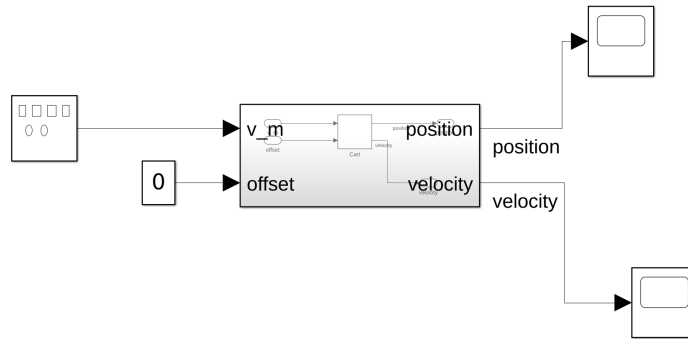

Figure 4: Schematic representation of the Matlab Simulink model
In this section you will learn how to configure and setup your system. You will need to The objective is to have the cart on the rails swing back and forth when inputting a square wave. Open the plant model (the file `cart.slx` provided to you) on your simulink model. Using the **Sources/Signal Generator** block in Simulink, create a block that generates a square wave for $v_m(t)$ with amplitude 1.5 V and frequency 0.5Hz. Be sure to input the value 0 to the **offset** input. A simple way to do it is to use the **constant** block with value 0 (this corresponds to a cart system with no slope). If everything is correctly set your block diagram should look very similar to Figure 4.
To collect data from the proposed experiment you can use the **scope** blocks as in Figure 4 or if you prefer creating your own plot you can use the **To Workspace** block. ¹
- Open another copy of the `cart.slx` Simulink model and the Library browser. Keep the input to the `offset` port at 0 as in Figure 4.
1. Open another copy of the `cart.slx` Simulink model and the Library browser. Keep the input to the `offset` port at 0 as in Figure 4. You will save your model as `model_p.slx` and once complete, include it in your submission.
1. Open another copy of the `cart.slx` Simulink model and the Library browser. Keep the input to the `offset` port at 0 as in Figure 4. You will save your model as `model_pi.slx` and once complete, include it in your submission.
- Use a transfer function block implementing directly (8).